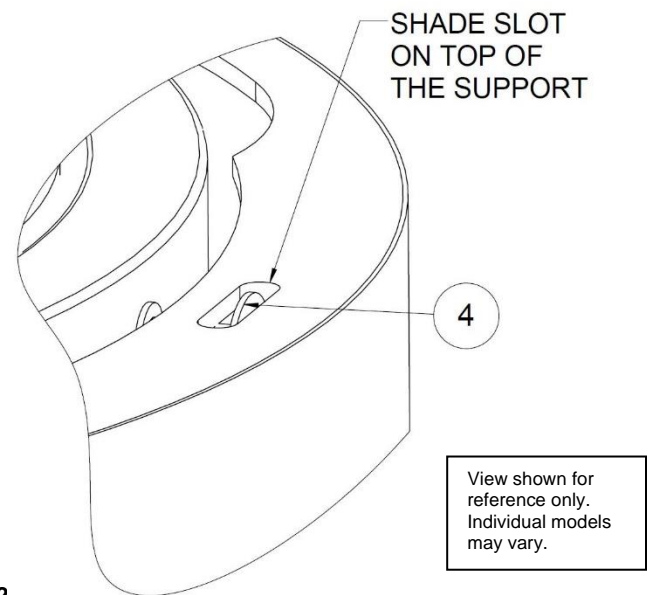

FIG 2
Step 5 – Mounting Diffuser (Fig 2)
- A. The diffuser has three notches in its upper flange. Align these large notches with the shade mounting support (4) on the outside of the ceiling pan, and push the diffuser up slightly past the mounting support.
- B. Rotate the diffuser clockwise or counterclockwise until the mounting support (4) rest within each diffuser slot. Note: all 3 mounting supports must be inside the shade slot.